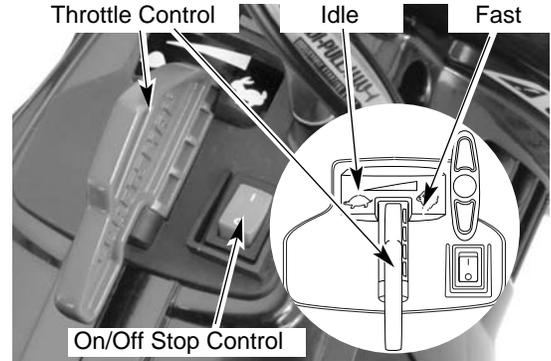
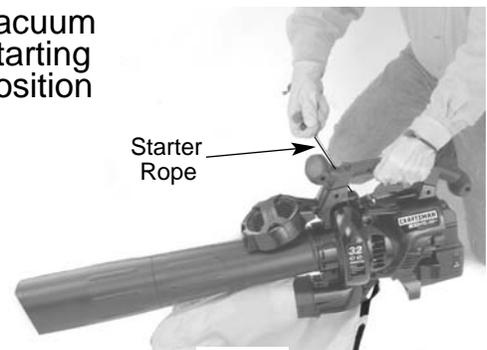

Fig. 9
Fig. 12
4. Place the unit in the starting position (Fig. 11) as a blower, Fig. 12 as a vacuum). Move the throttle control to the idle position (🐷) (Fig. 9). This is especially important during cold starting.